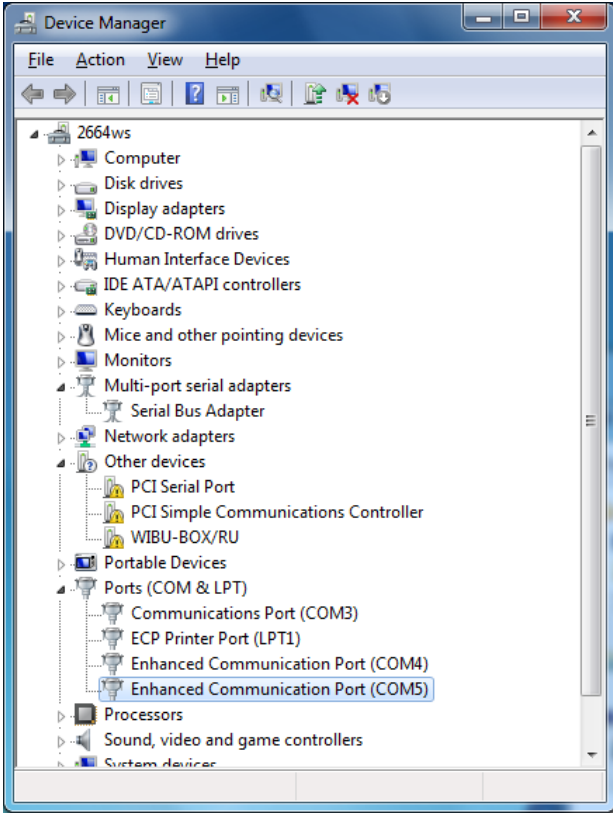

Figure 26
5. To verify which COM ports were installed and to check that there are no issues, verify the Device Manager entries. Clicking on the Close button in the “Update Driver Software”, returns to the Device Manager and displays a screen as shown in Figure 26, for a successful install.